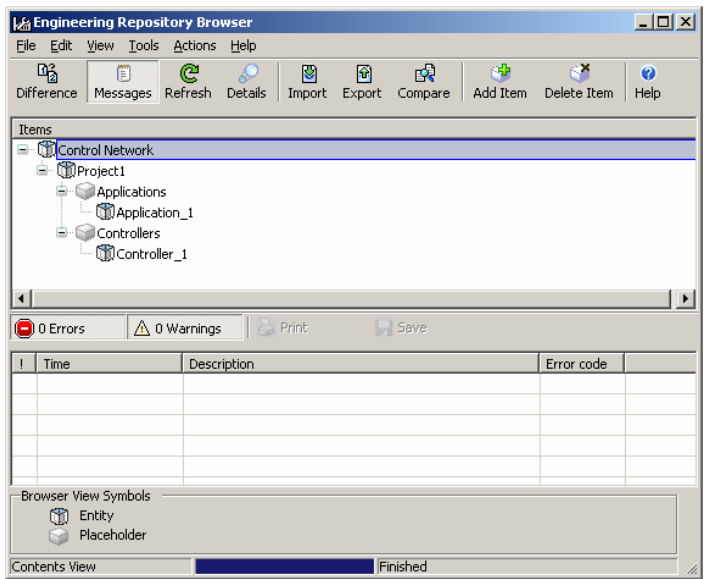

Figure 256. Engineering Repository Browser - Messages View
- **Messages** - Select this to view error and warnings generated in the application. When new entries are added to the log the log view is automatically displayed as shown in Figure 256.